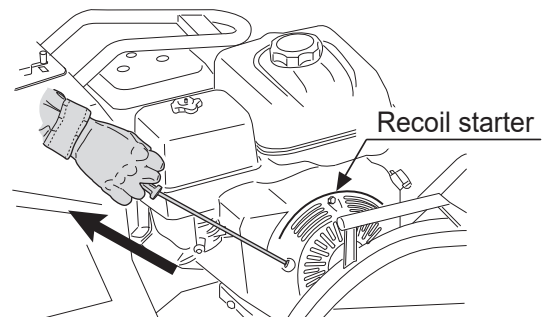

Fig.21
8. Hold the recoil starter grip, and pull it a little. You will feel a slight resistance. Then, pull it hard to run the engine. Be careful not to pull too hard, or the rope might break or come off. Allow the starter rope to slowly move back into the case while keeping the grip grabbed. (Fig.21)